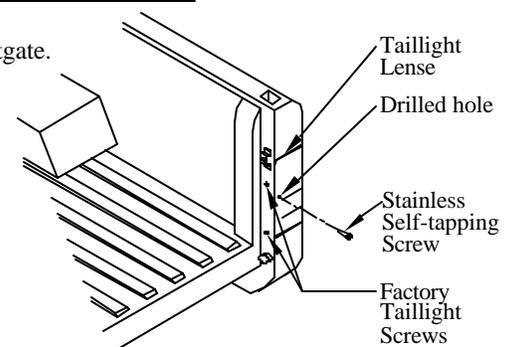

Figure 4 : Taillight modification detail.
A) Remove the (2) factory taillight screws (**Figure 4**).
B) Remove taillight lens (**Figure 4**).
- Step 2: Carefully **Drill** a 9/64" hole through each taillight lens and internal sheet metal (**Figure 4**).
- Step 3: Carefully **Drill** a 3/16" hole through each taillight **lens only** , for screw clearance (**Figure 4**).